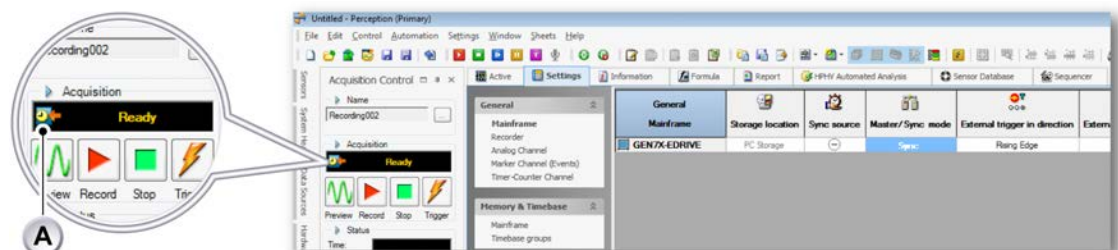

Figure 14.27: Status - Master detected
- **Master detected** (see Figure 14.27)